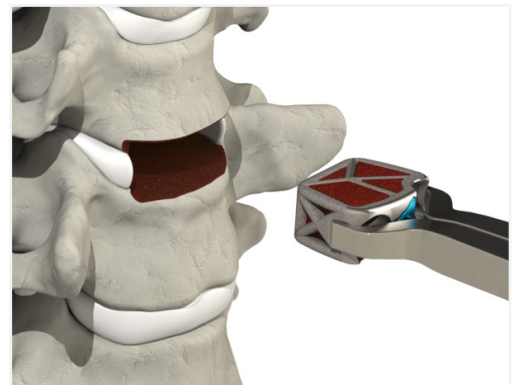

Figure 15
- ▲ Insert the implant into the disc space (Fig. 15). Use fluoroscopy to confirm proper position and placement of the implant. A tamp is provided in the system for additional implant positioning. Remove the Freehand Inserter from the implant.